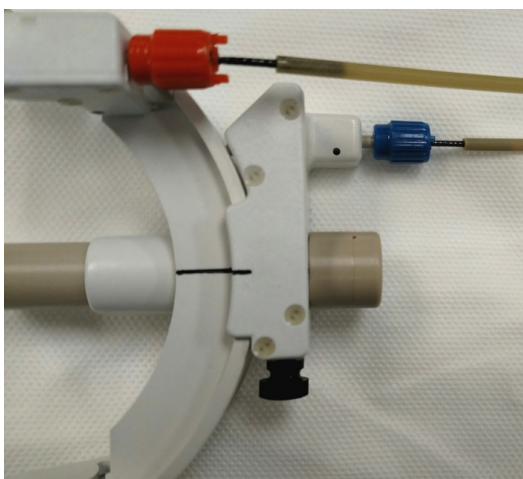

Figure 19: Thumbwheel Extension wings seated into SMARTFrame Thumbwheels
2. Attach the distal ends (wings) of the Thumb Wheel Extension Set to the matching colored thumb wheels on the SMARTFrame Array. **See Figure 19.**
3. The Thumb Wheel Extension Set thumb wheels may require rotation to properly orient the wings into the SMARTFrame Array thumb wheels. The wings should slide to the bottom of the thumb wheels and seat into place. **See Figure 19.**